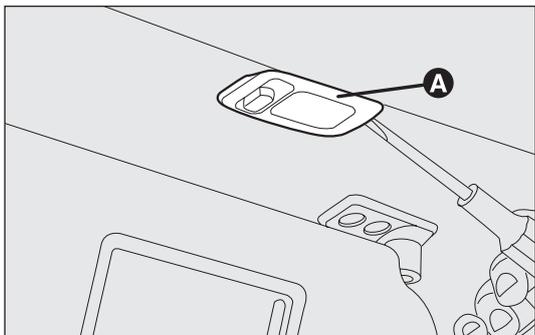

fig. 179
## COURTESY LIGHT fig. 179
- remove the light A-fig. 179 by levering on the points shown by the arrow.